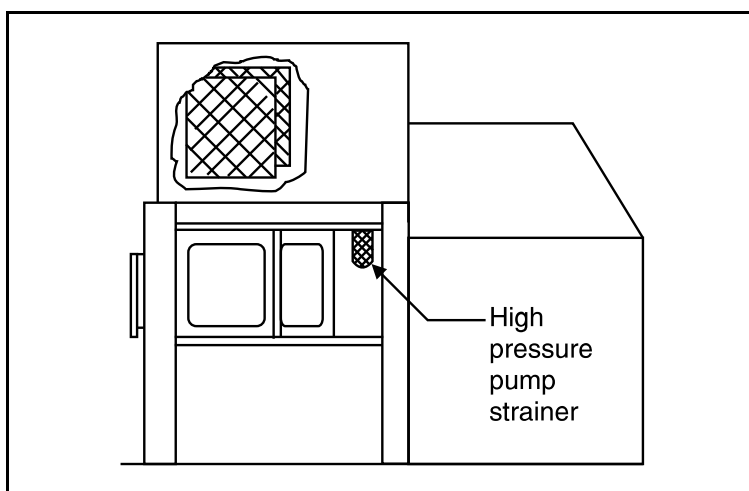

FIGURE 2 (MSIND420AE)
2. Install high pressure pump strainer in pre-press. See FIGURE 2.